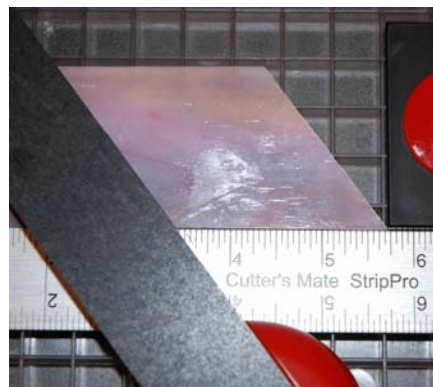

figure 6
6. Break off your first score and put the new edge against the glass stop. Score again and you will have your diamond. Repeat as many times as needed. (figures 6 and 7)